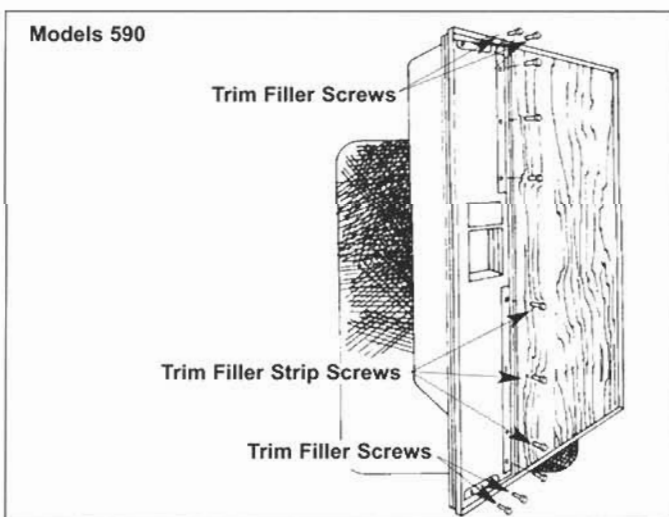

Figure 2-19. Door Trim Screws
4. Remove the top and bottom trim filler mounting screws and trim fillers (Figure 2-19). Also, remove the vertical trim strip and mounting screw.
3. Remove the vertical trim strip and screws (Figure 2-19).